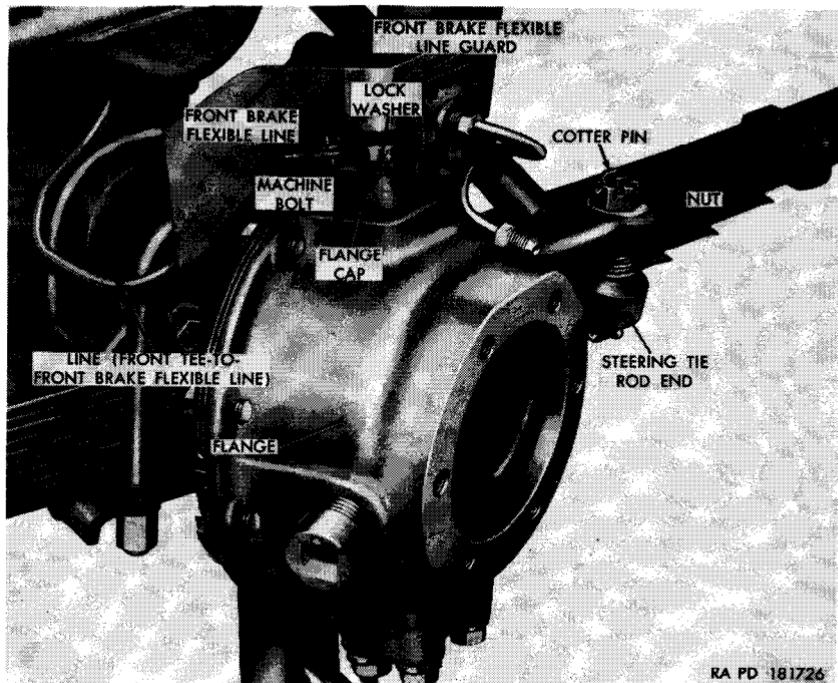

Figure 104. Steering knuckle flange with arm assembly.
- (1) Remove the front axle shaft assembly (par. 224a).
- (2) Withdraw the cotter pin and unscrew the nut securing the steering tie rod end (fig. 104) to the steering knuckle arm.
- (3) Unscrew the nut securing the line between the front tee and the front brake flexible line (fig. 104) to the flexible line.
- (4) Remove the two bolts and lockwashers securing the front brake flexible line guard to the flange cap and remove guard and front brake flexible line (fig. 104).
- (3) Position a steering knuckle flange cap bearing cone in its cup in the upper section of the housing. Position the steering knuckle flange arm (fig. 104) on the stud of the tie rod end and swing the flange into position on the housing. Tilt the flange up and slide the second steering knuckle flange cap bearing cone in from the rear of the flange and between the flange and housing. Seat the bearing cones in their cups by working the flange up and down.
- (6) Position the front brake flexible line guard (fig. 104) on the steering knuckle flange cap and secure in position with two $\frac{3}{8}$ -inch lockwashers and $\frac{3}{8} \times 1\frac{1}{2}$ bolts.
- (7) Screw the nut on the line between the front tee and the front brake flexible line into the fitting of the front brake flexible line (fig. 104).
- (8) Screw the $\frac{1}{2}$ -inch nut (fig. 104) onto the stud of the steering tie rod end and insert a $\frac{3}{32} \times \frac{7}{8}$ cotter pin through slots in nut and hole in the stud.
- (9) Install the steering knuckle flange oil seal (par. 229b).
- (10) Install front axle shaft assembly (par. 224b).
- (1) Place a jack under the front axle and raise vehicle until tires clear the ground. Place safety stands or suitable blocking under vehicle frame side rails. Leave the jack in position to support weight of axle during removal procedures.
- (2) Remove front wheels (par. 228).
- (3) Withdraw the cotter pin and unscrew steering tie rod end nut (fig. 104). Tap the stud of the tie rod end out of the steering knuckle arm (fig. 104). Repeat the procedure at the other side of the vehicle.
- (4) Disconnect the two front shock absorbers at the lower end only (par. 253).
- (6) Connect the lower end of the front shock absorbers to the spring and shock absorber mounting seats following the applicable instructions contained in paragraph 253.
- (7) Tap the stud of the tie rod end up into the steering knuckle arm (fig. 104) and secure in position with a $\frac{1}{2}$ -inch nut and $\frac{3}{32} \times \frac{7}{8}$ cotter pin. Repeat the procedure on other side of vehicle.
- (8) Install front wheels (par. 228).
- (9) Remove safety stands and blocking, lower vehicle to the ground and remove jack.
- (10) Lubricate axle as directed on lubrication order (par. 66).
- (11) Bleed the brake system (par. 246).
- (12) Make a record of replacement on DA Form 478.